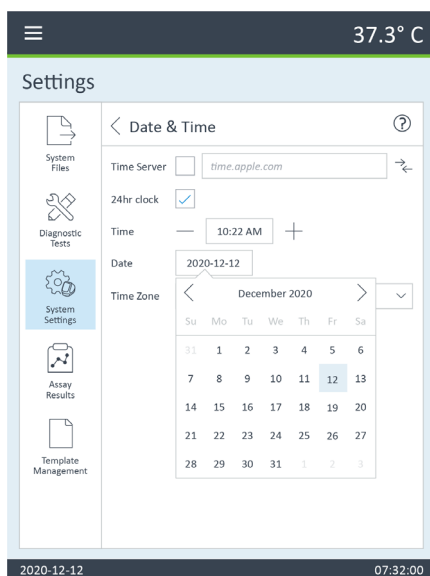

Figure 37. Configure date and time for the XF HS Mini Analyzer
- 2 Select the **Date and Time** settings tab. (Figure 37)